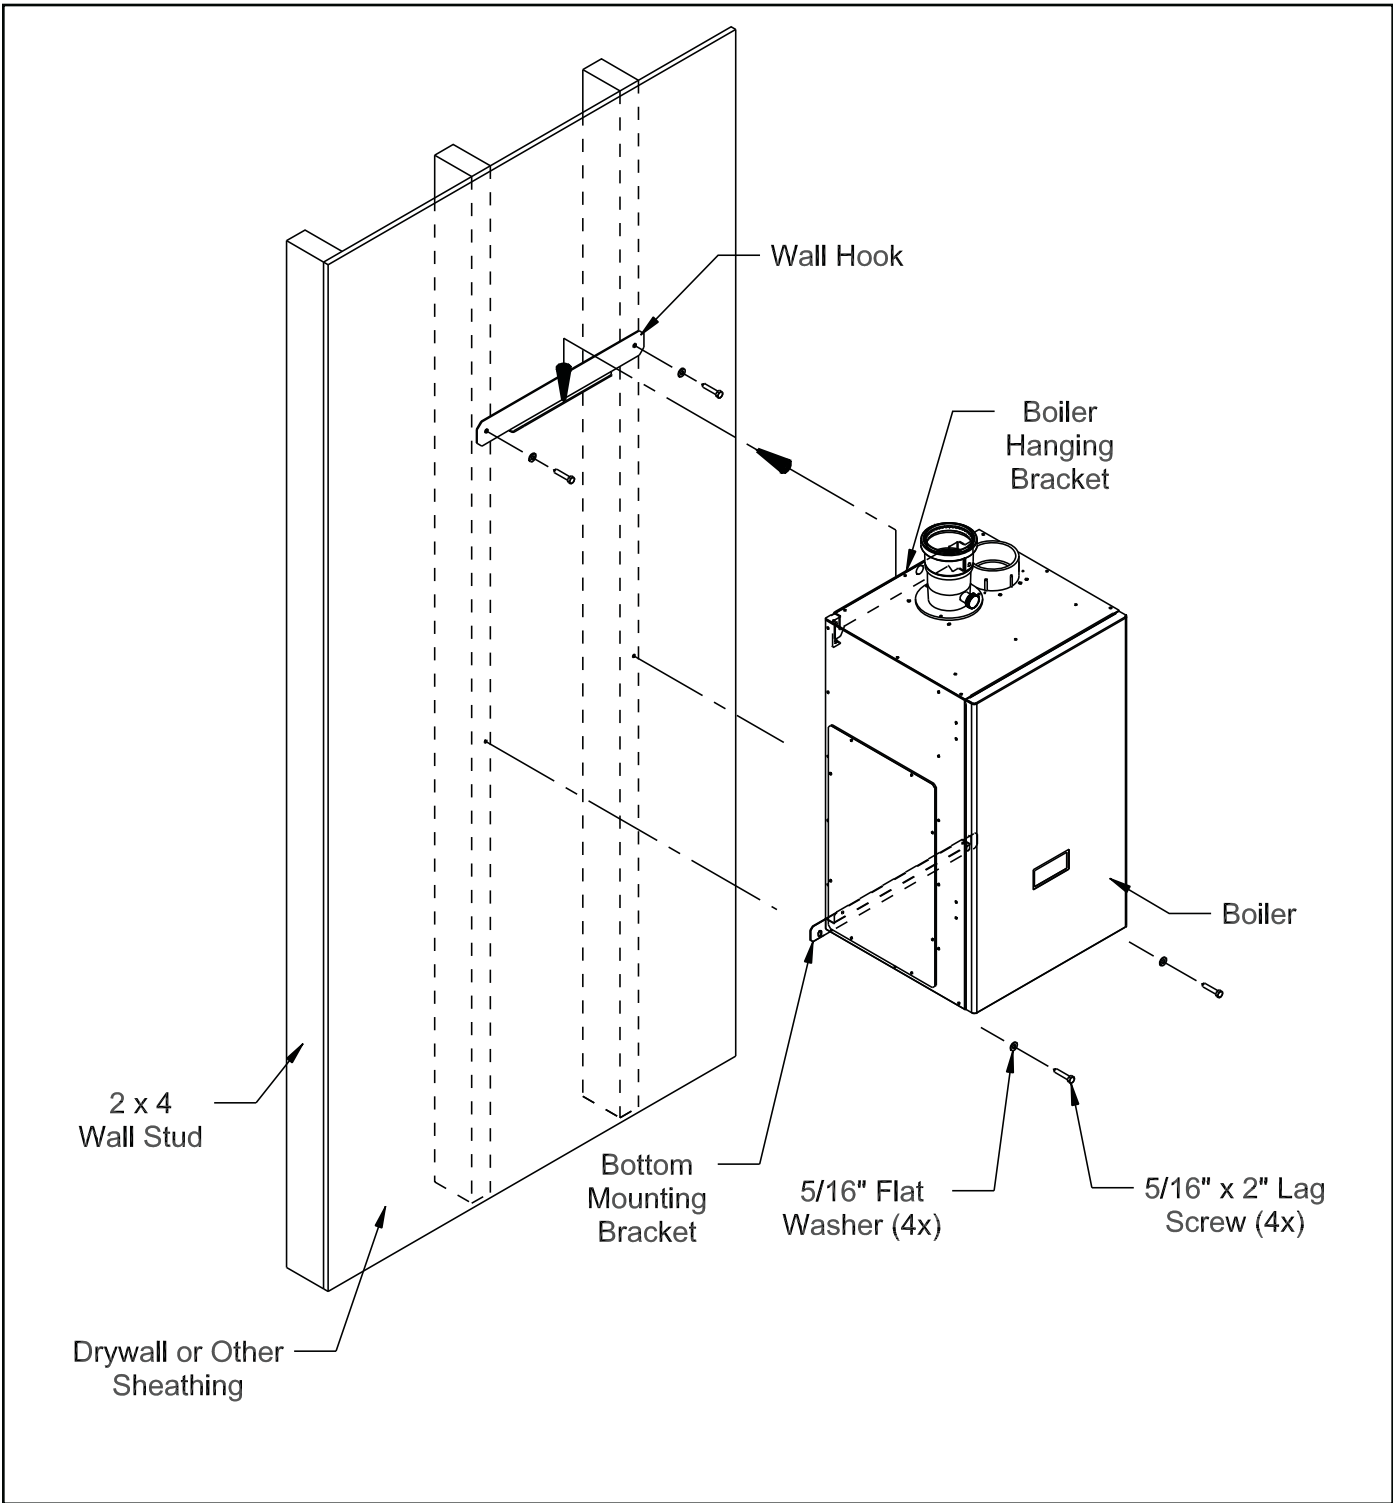

Figure 5.2 Boiler Mounting Bracket Installation / Boiler Wall Mounting
- 6) The wall mounting hook is used to secure the boiler to the shipping pallet. Remove this hook from the pallet and secure to the wall using the 5/16" x 2" lag screws and washers, or other suitable anchors as appropriate (Figure 5.2). Make sure the hook is level.
- 7) Hang the boiler on the wall hook as shown in Figure 5.2.
- 8) If not already done in Step (5) locate and drill holes "C" and "D" using the obround slots in the bottom mounting flange. Secure the bottom flange to the wall using the 5/16" x 2" lag screws, or other fasteners as appropriate (Figure 5.2).